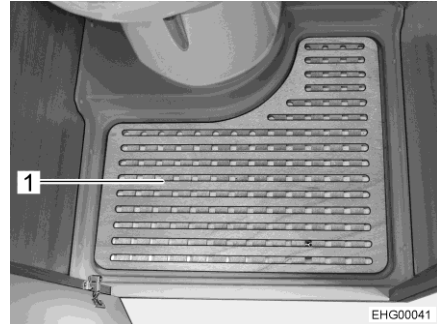

Fig. 102 Removable floor plate
- Take out the removable floor plate (Fig. 102,1) for showering.